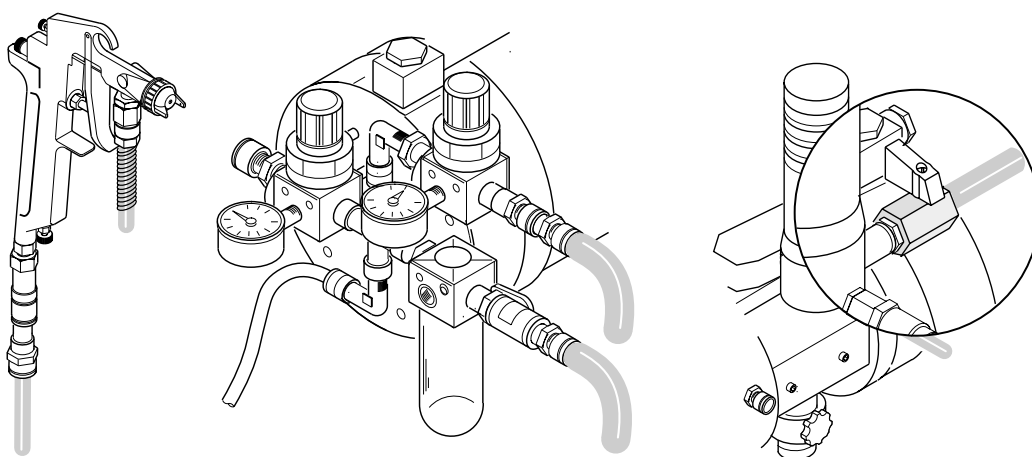

Fig.37
- 3) Check to make sure that all of the pipes (air and product) are connected correctly (fig. 37). In the event of an incorrect fixing **before disconnecting any pipe close the air inlet tap.**